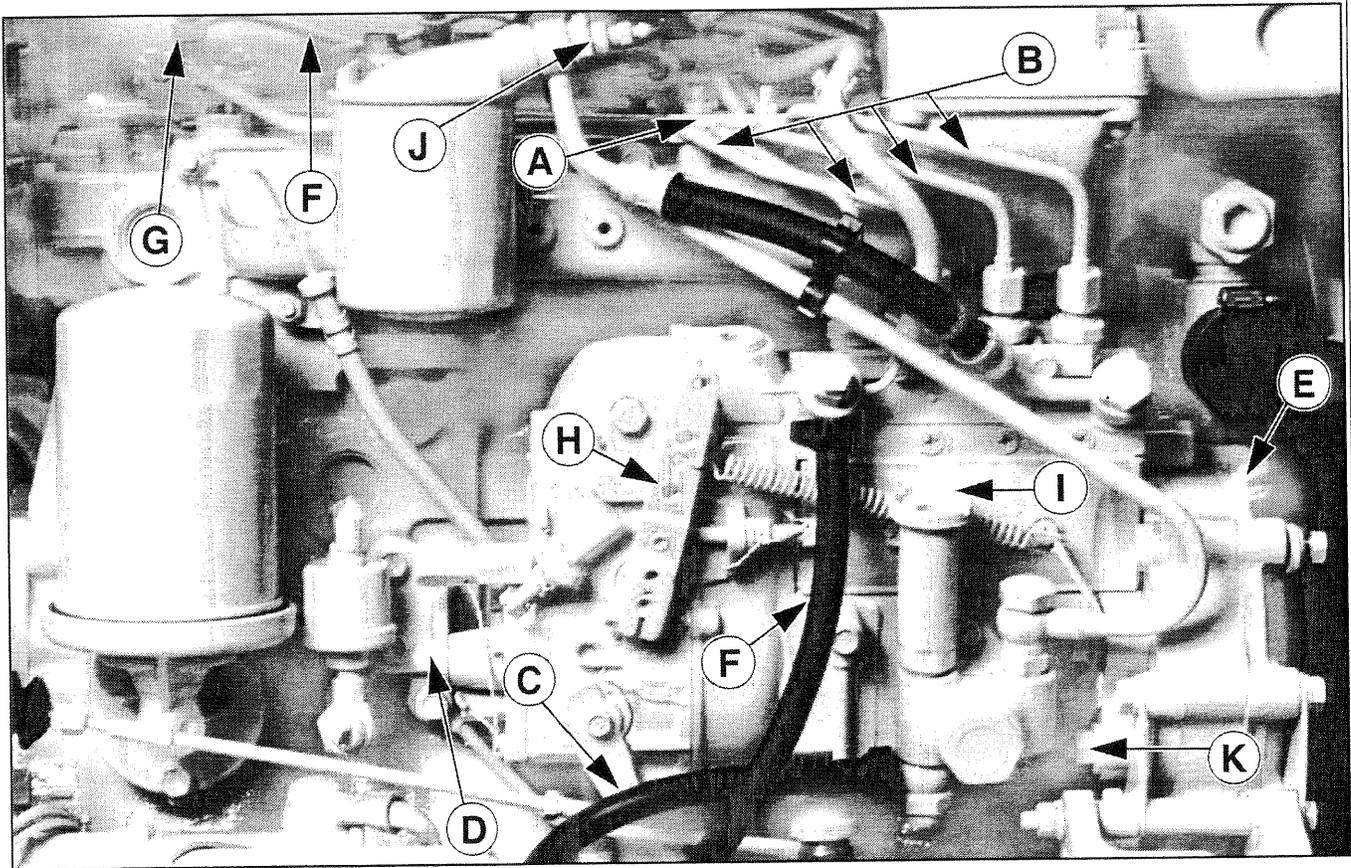

Figure 13: Fuel System
- c. Remove delivery lines (Figure 13-B) by disconnecting from injectors and injection pump. Remove all lines as an assembly; do not remove the spacers. Cover the ends of the lines, the injector inlets and injection pump outlets to keep dirt out.
- c. Reinstall injection lines (Figure 13-B). Tighten flare nuts at injection pump to 18.2 - 25.3 ft/lbs (2.5 - 3.5 k/gm). Leave the lines loose at injectors for bleeding.
- d. Bleed the injection lines (Figure 13-B). Crank the engine to fill the lines. Tighten flare nuts at injectors to 18.2 - 25.3 ft/lbs (2.5 - 3.5 k/gm).
- b. Remove the injection lines (Figure 13-B) from the pump and injectors. Remove all lines as an assembly. Do not remove the spacers. Cover the ends of the lines, the injector inlets, and the injection pump outlets to keep dirt out of the injectors, lines, and pump.
- c. Remove the pump support bracket (Figure 13-D) on rear of pump.
- d. Remove the plug (Figure 13-E) from the timing case cover. Use an indelible marker to put a mark on the injection pump gear through the plug hole. You will use this mark to align the pump during reassembly. Do not rotate the crankshaft after marking.
- e. Remove the 4 mounting nuts (Figure 13-K). Two (2) are found on the back side of the injection pump, and two (2) are found on the front side.
- c. Pressurize the system with the hand primer pump (Figure 13-I).